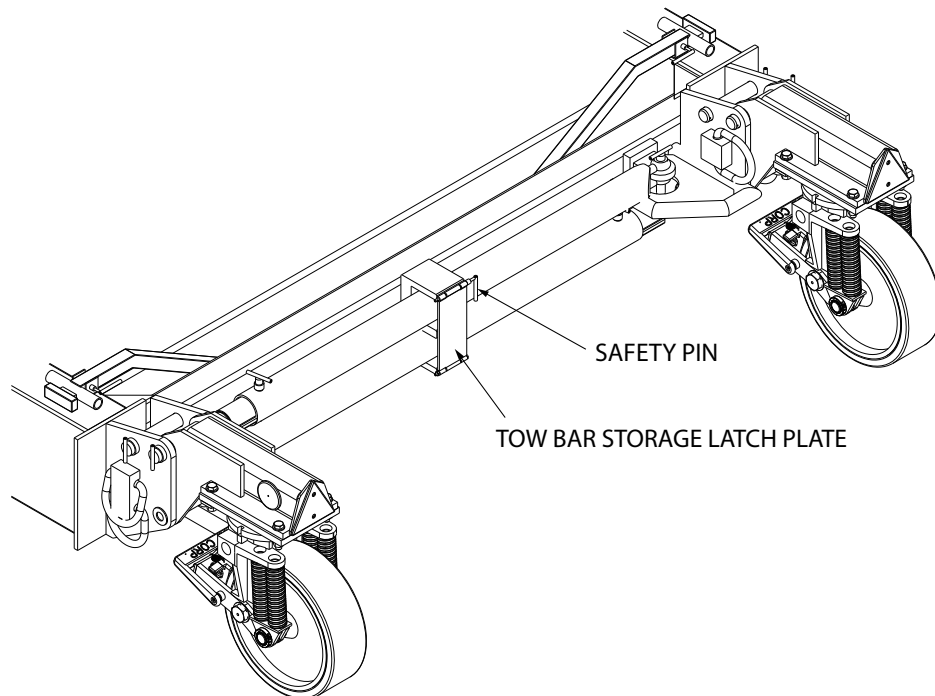

Figure 5.3-2
- 2) Deploy the tow bars (Illustration Figures 5.3-2 through 5.3-5)